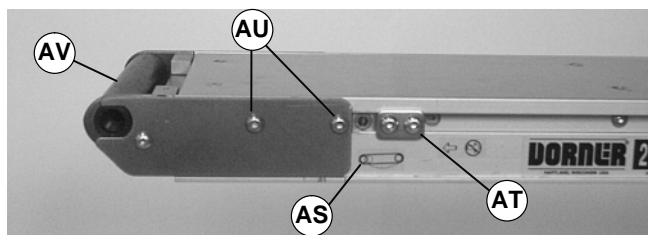

Figure 16
- Remove tension door screws (AP) on each side of the center drive module.
- Using finger grip holes (AQ), open the tension door (AR) to release conveyor belt tension.
- On tension end of the conveyor, identified with  label (AS of Figure 16), loosen tracking cam assemblies (AT) and cover plate screws (AU) on both sides of the conveyor.
- Slide the cam assemblies toward the center of the conveyor and push the end (AV) into the conveyor frame.